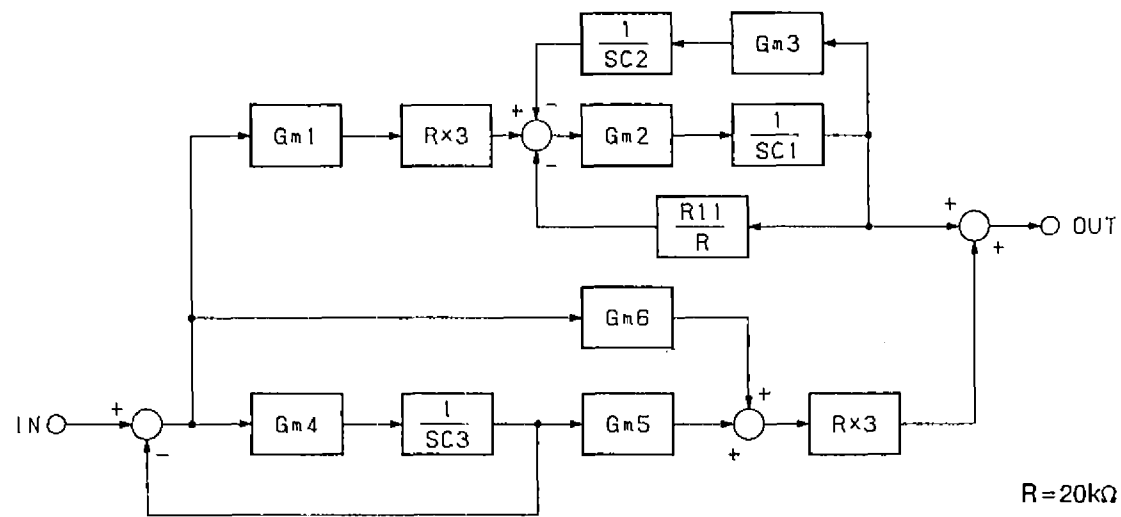

Fig. 3 Signal block diagram (simplified of Fig. 2)
When the block diagram in Fig. 3 is divided to low pass filter, high pass filter, and band pass filter and respective transfer function are GLPF (S), GHPF (S), and GBPF (S):